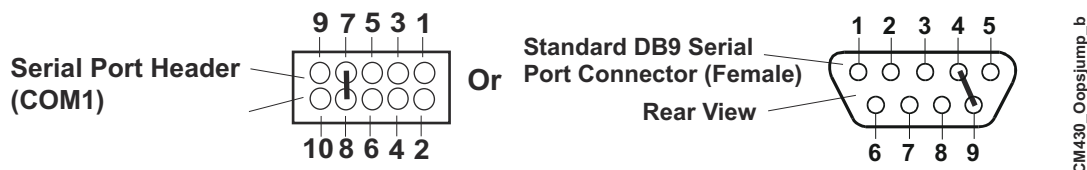

Figure 3-2. Oops! Jumper
To convert a standard DB9 connector to an Oops! jumper, short together the DTR (4) and RI (9) pins on the rear of the connector as shown in Figure 3-2 on the Serial Port 1 DB9 connector.